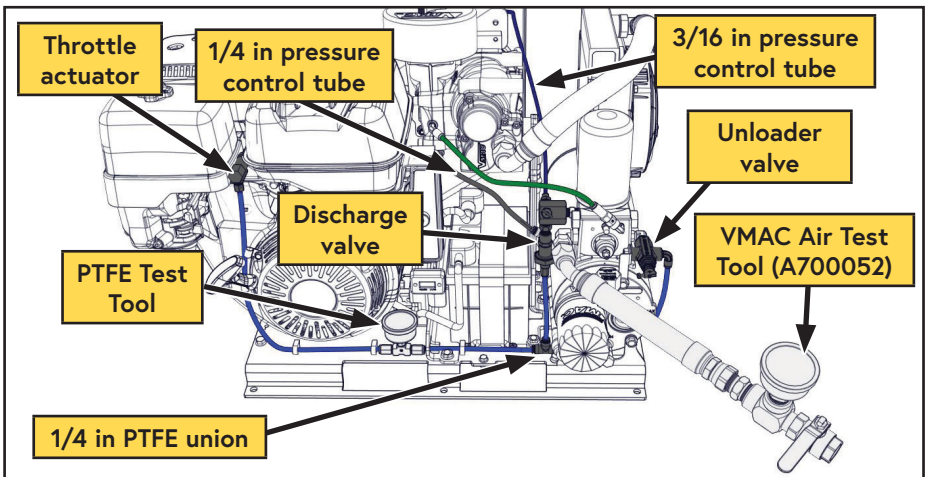

Figure 55 — Test equipment installed
- Install a test tool on the system outlet (Figure 55).
- Install the PTFE test tool (page 67) on the 1/4 in throttle tube (Figure 55).